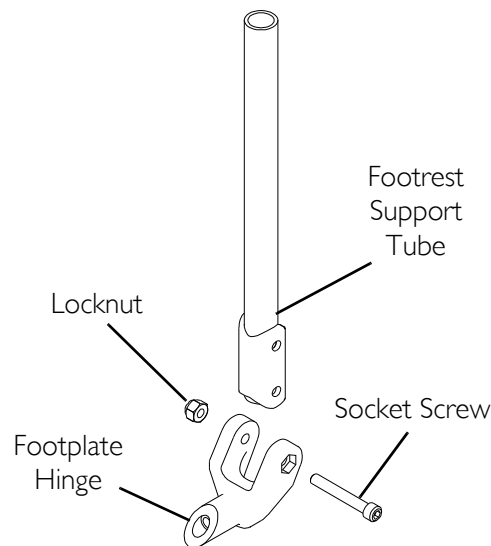

FIGURE 4.6 Installing Adjustable Angle Flip-up Footplate Hinge
NOTE: For this procedure, refer to FIGURE 4.6.
2. Position the hardware on the footrest support as shown in *FIGURE 4.6*.